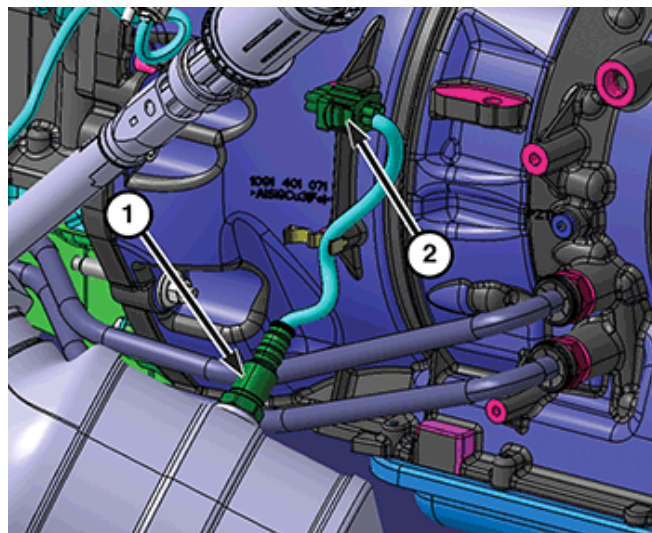

Figure 6 – Oxygen Sensors
11. Disconnect the oxygen sensor wire harness connector (2) and remove the harness from the retainer (Figure 6).
22. Install the oxygen sensor (1) and tighten to 52 N·m (38 ft. lbs.) (Figure 6).
23. Connect the oxygen sensors wire harness connector (2) and secure the wire harness in the retainer (Figure 6).